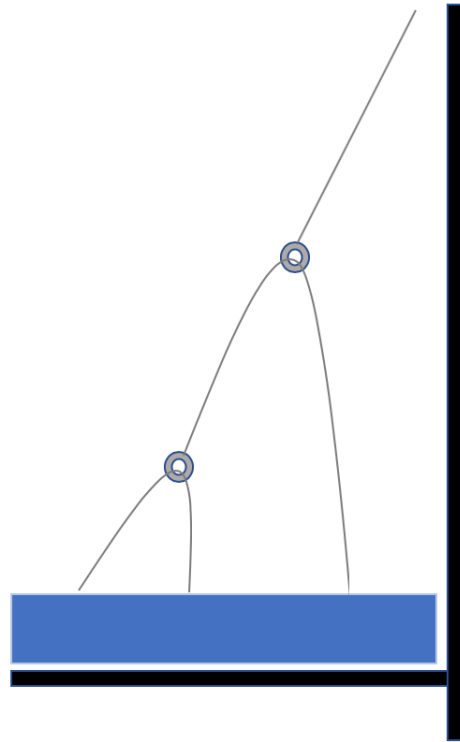

FIGURE 1
Step 2: Take your 2 lower lines each side and feed them through the mid-line rings and tie them to the 4 webbing points on each side of the bag as per Figure 1 for medium and large kits and Figure 2 for small kits. (Note that for small kits there are only 3 webbing attachment points)